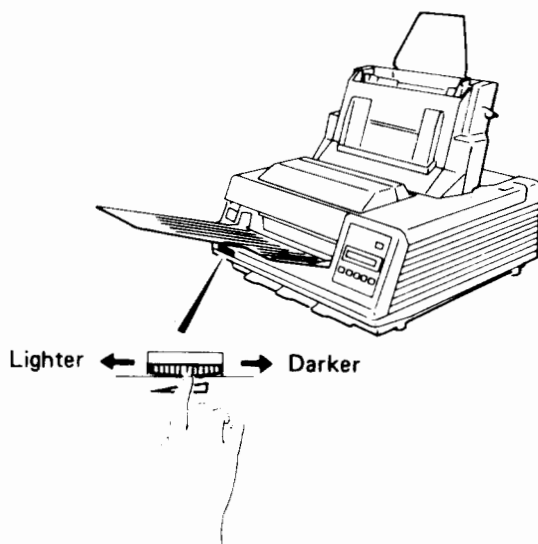

Figure 2-22 Adjusting print density
- b. If the test print is too light or too dark, adjust the print density dial as shown in Figure 2-22.